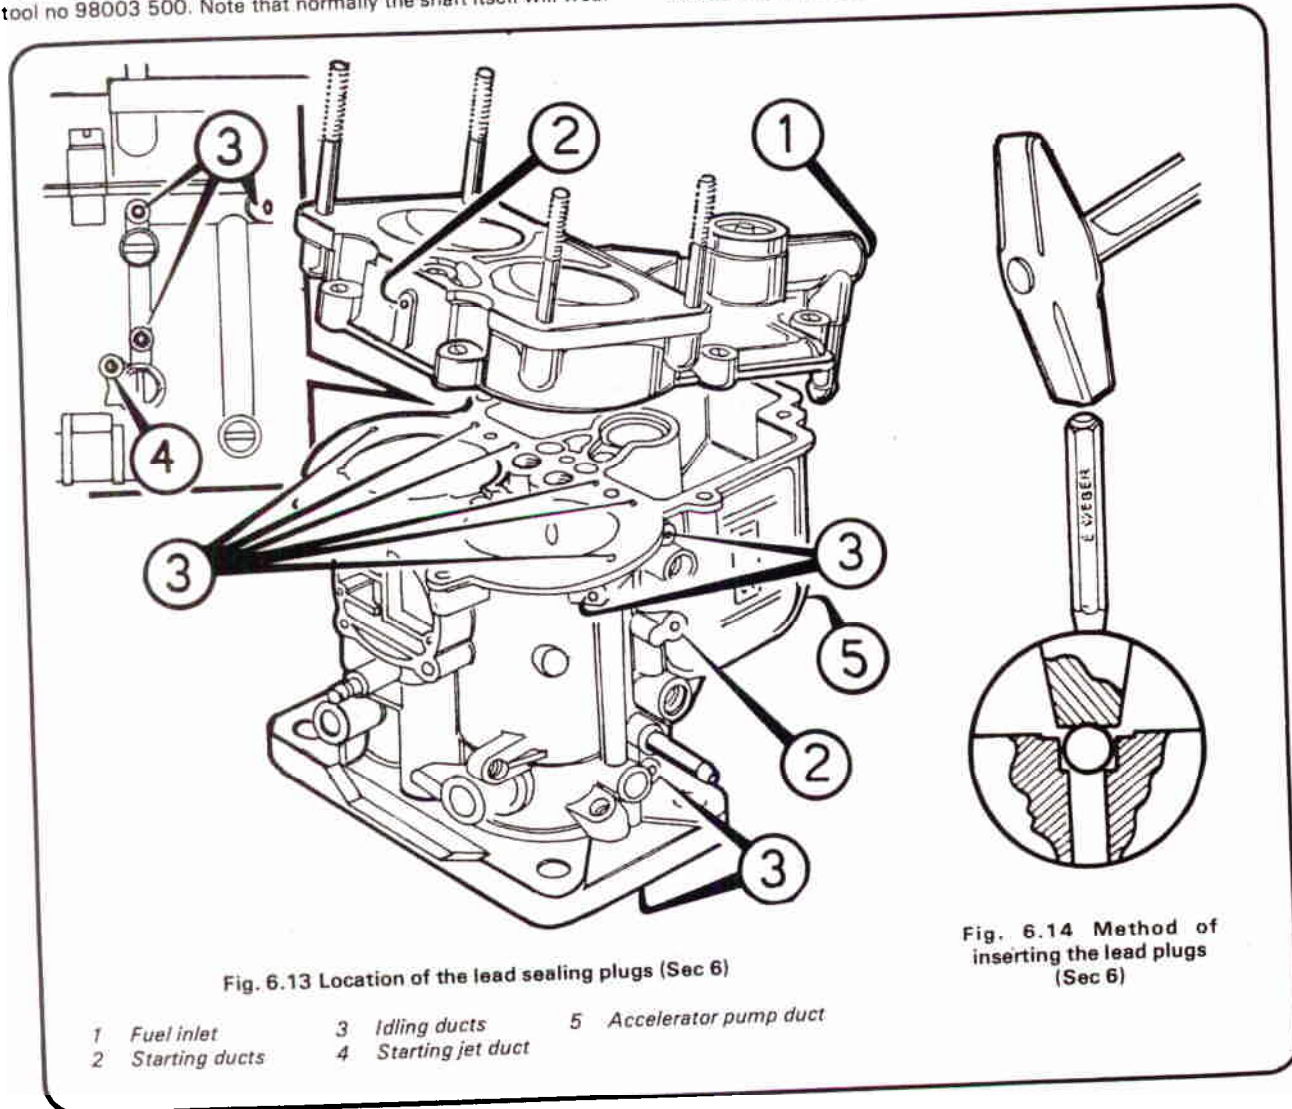

Fig. 6.13 Location of the lead sealing plugs (Sec 6)
- 7 Check the internal channels of the carburettor body (77) and cover (1), for blockage by injecting fuel with a syringe and observing that it emerges freely from the particular channel being tested. If any are blocked, the lead plugs as shown in Fig. 6.13 must be drilled out and the channels cleared and checked with the special Weber tool.